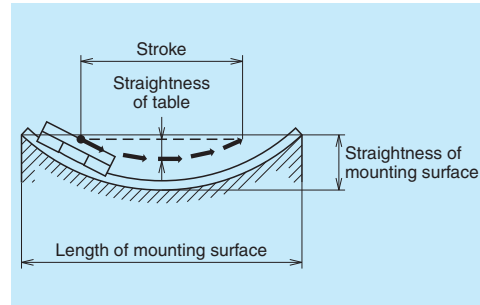

Fig. 10.4
- However, when two or more slides are assembled to each rail, the table stroke becomes shorter than the mounting surface. This, along with the fact that the mounting error is evenly spread, contributes to a higher table accuracy than the mounting surface accuracy, reducing the error to about 1/3 in average (Fig. 10.4).